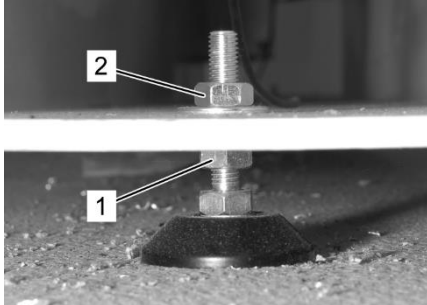

Fig. 25: adjustable foot
1. Loosen the lock nut (Fig. 25/2) with a 17mm spanner.
2. Adjust height by using 17mm spanner on adjusting nut (Fig. 25/1).
4. When done, secure the lock nut (Fig. 25/2) with a 17mm spanner.